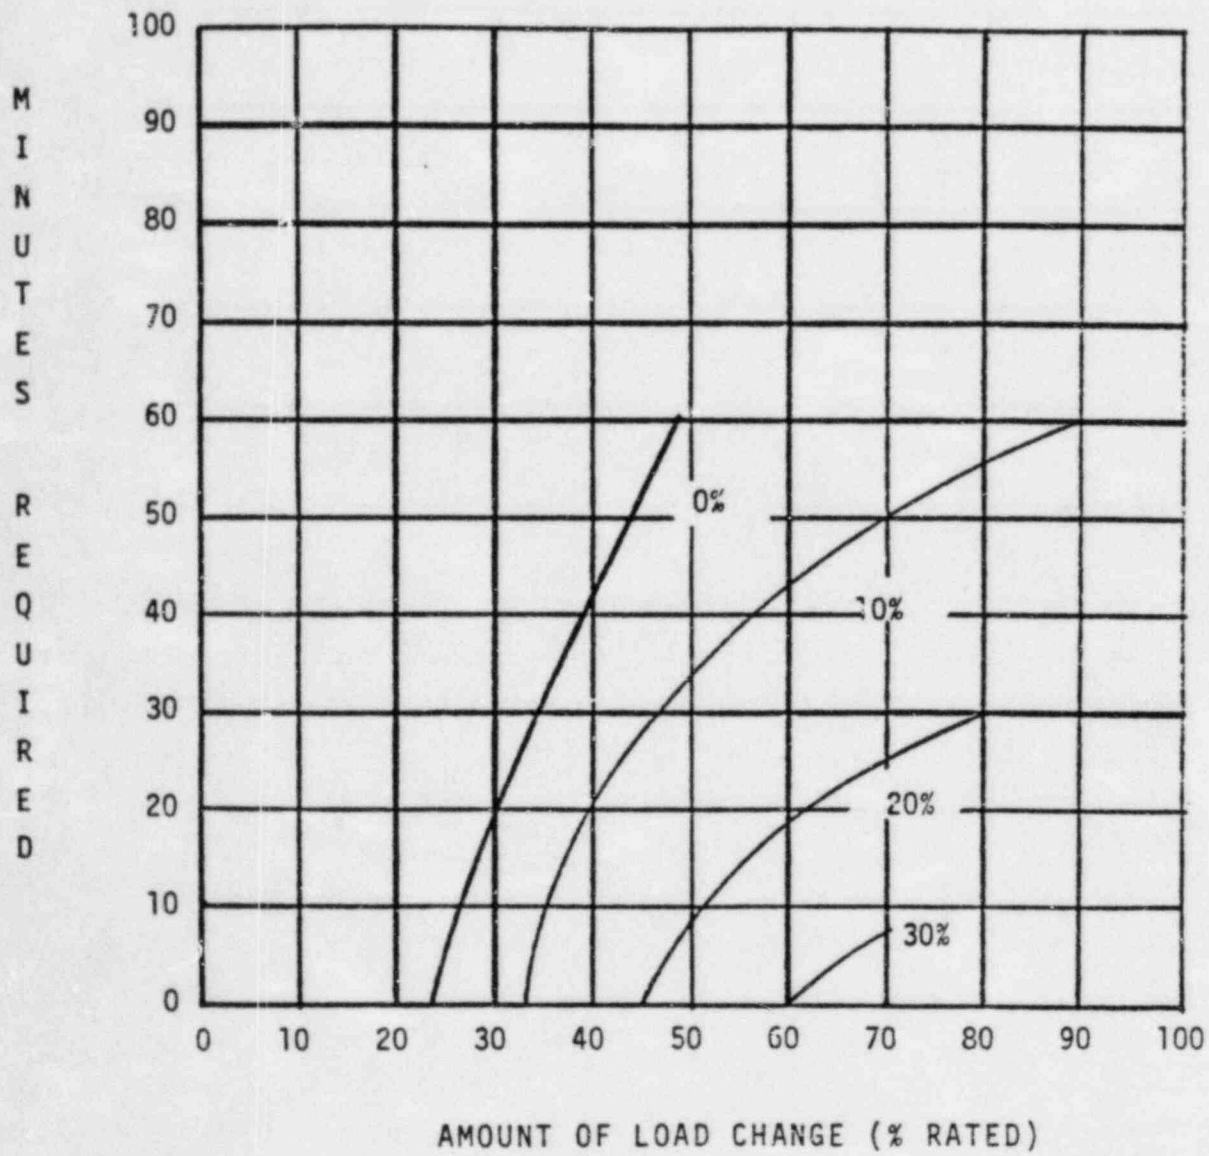

FIGURE B.6.1
a. What is the minimum time required to increase power from 20% to 100%? Figure B.6.1 is attached.